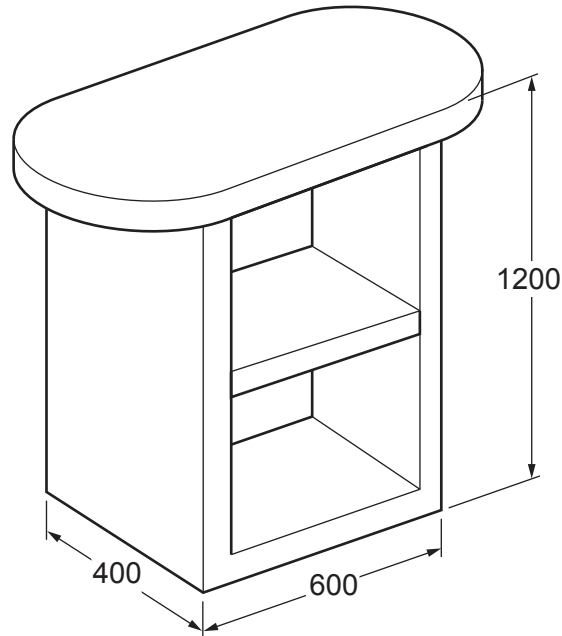

Fig. 1.1
- 1 Fig. 1.1 gives details about a book case that is to be made in a school workshop.